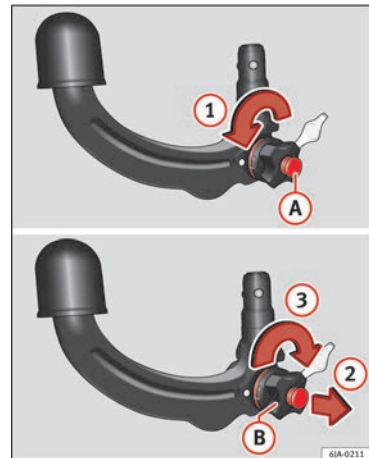

Fig. 100 Placing in service position. »»
- Turn key **(A)** fully in the direction of arrow **(1)** » **Fig. 100**.